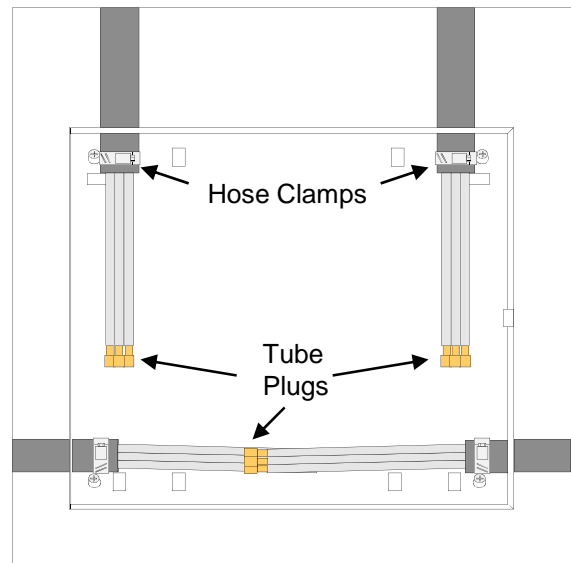

Figure 6
8.7.2 Carefully tighten hose clamp around tube cable jacket; do not over-tighten or tube cable damage can result. **See Fig. 6.**